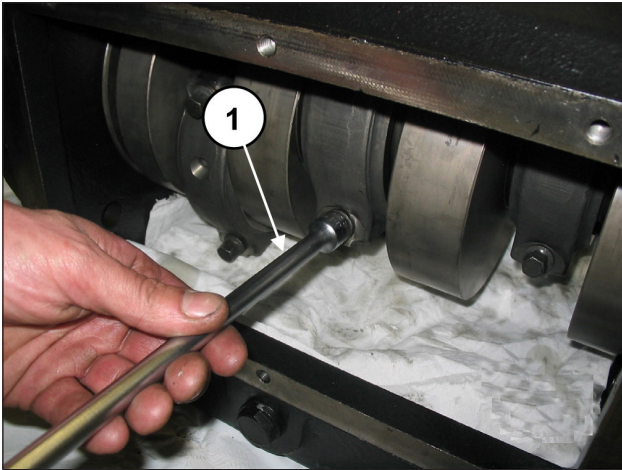

Fig. 23
Unscrew the con-rod screws (pos. ①, Fig. 23).